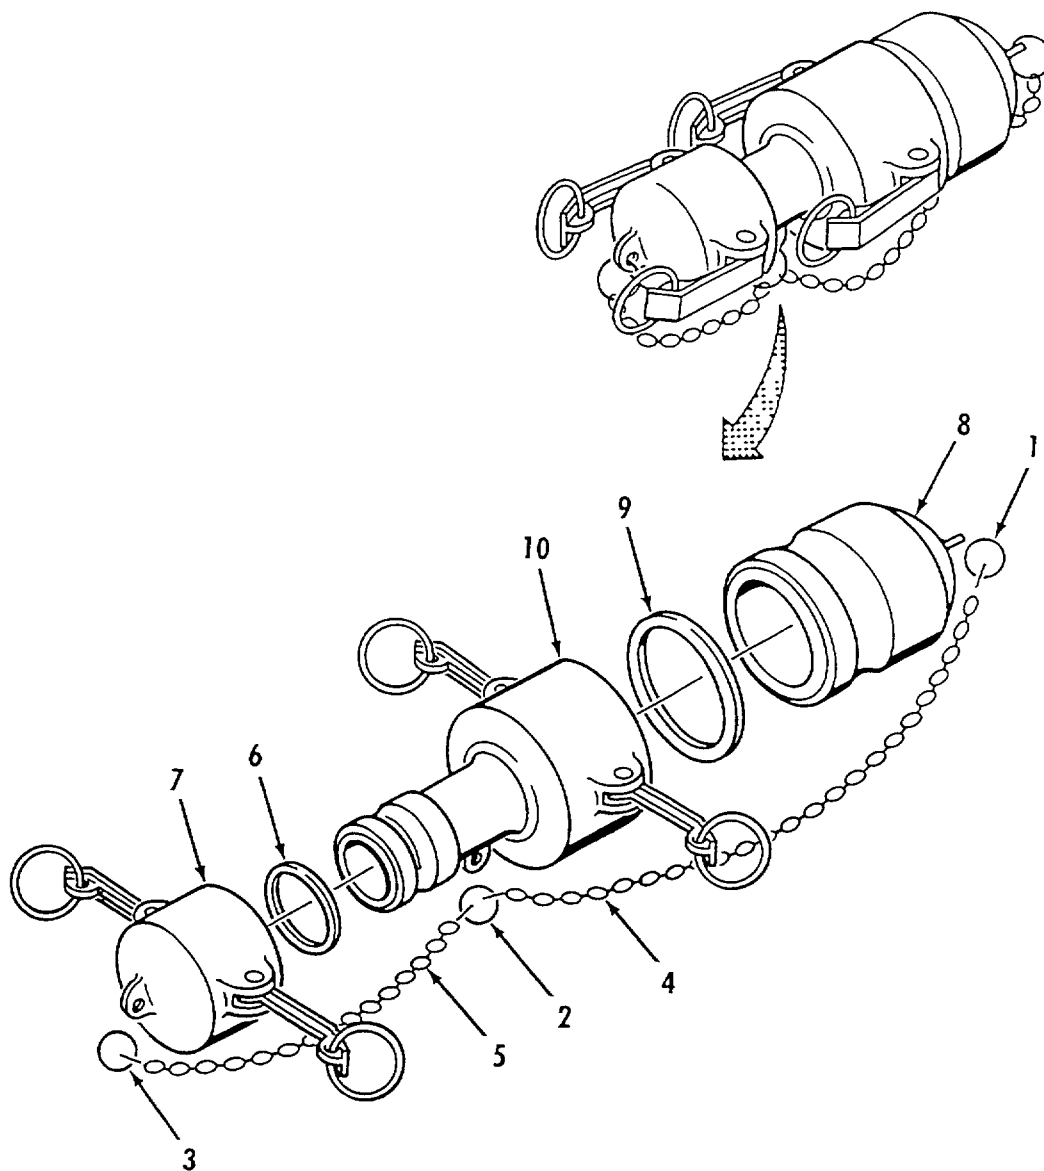

Figure 4-14. Reducer repair.
a. Disassembly. Refer to figure 4-14.
- (1) Disconnect split ring (1) from dust plug (8).
- (2) Disconnect split ring (2) from reducer (10).
- (3) Disconnect split ring (3) from dust cap (7).
- (4) Disconnect chain (4) from split rings (1 and 2).
- (5) Disconnect chain (5) from split rings (2 and 3).
- (6) Remove dust cap (7) and dust plug (8) from reducer (10).
- (7) Remove gasket (6) from dust cap (7).
- (8) Remove gasket (9) from reducer (10).
- d. Assembly. Refer to figure 4-14.